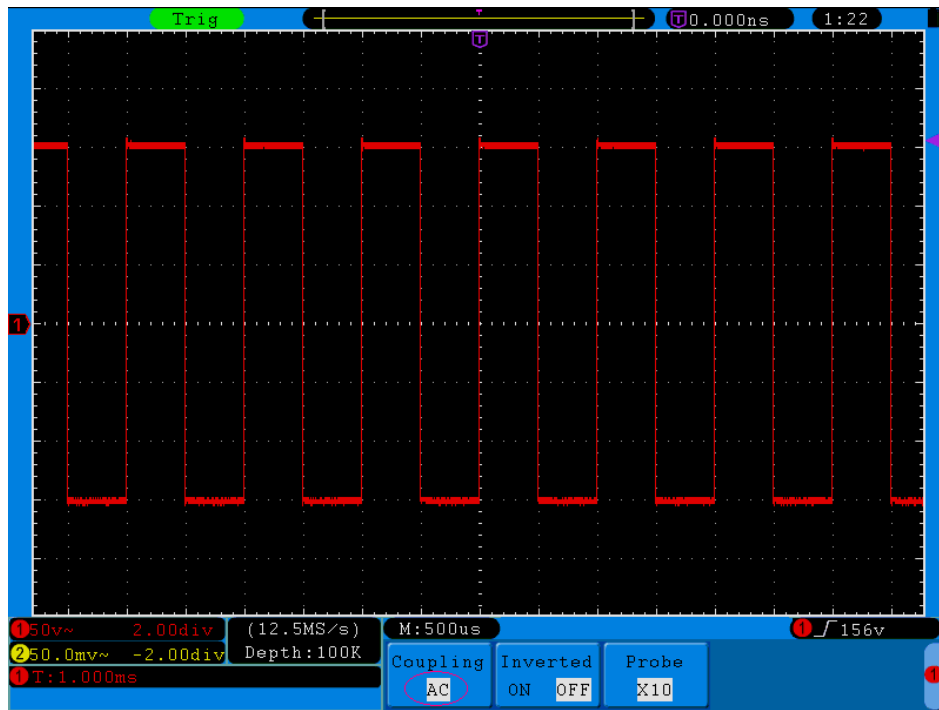

Figure 4-2 AC Coupling Oscillogram
- (1) Press the **CH1 MENU** button to show the CH1 SETUP menu.
- (2) Press the **H1** button, the Coupling menu will display at the screen.
- (3) Press the **F1** button to select the Coupling item as "**DC**". Both DC and AC components of the signal are passed.
- (4) Then, press **F2** button to select the Coupling item as "**AC**". The direct current component of the signal is blocked. The waveforms are shown as *Figure 4-2*.